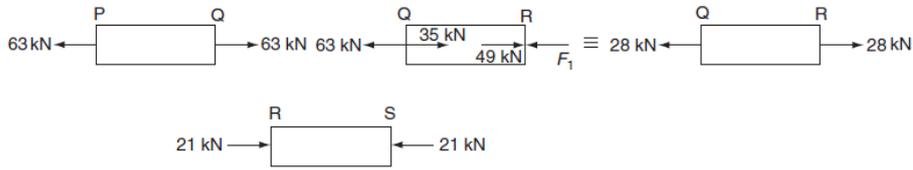

Figure 23 Question 38.
**Explanation:** Let us draw the free-body diagram of different segments as shown in Figure 23: